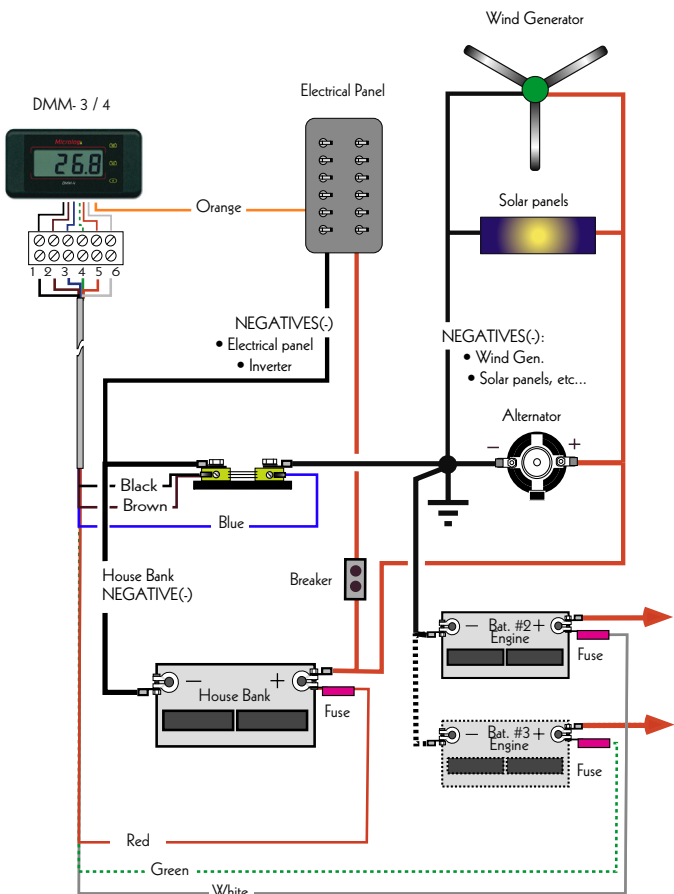

Figure 4: Shunt Installation to monitor the charge current
- C- You can also install the shunt to monitor the charge current only, as in Figure 4.
C. Figure 4 show the instrument with shunt for chargers current monitoring only :